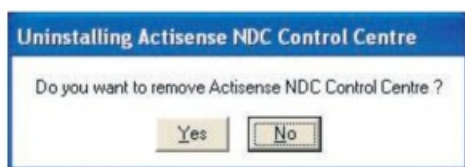
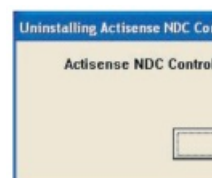

Figure 8 – Uninstall confirmation
Figure 9 –
3. Once the uninstall operation has been requested, the confirmation box (figure 8) will be displayed. Answer 'Yes' and the uninstall operation will be performed automatically. After successfully uninstalling the Actisense PC software, the uninstall completion box will appear (refer to figure 9).